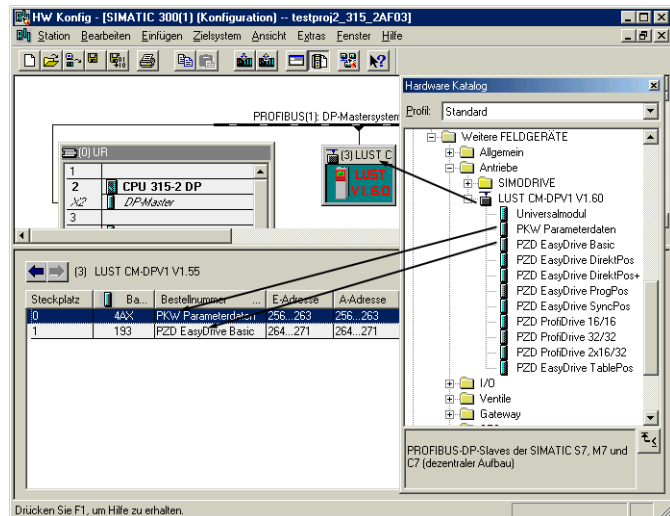

Figure 2.11 Hardware configuration of the S7
- Select the DP-Slave (see Figure 2.11 “(3) LUST CM-DPV1”).